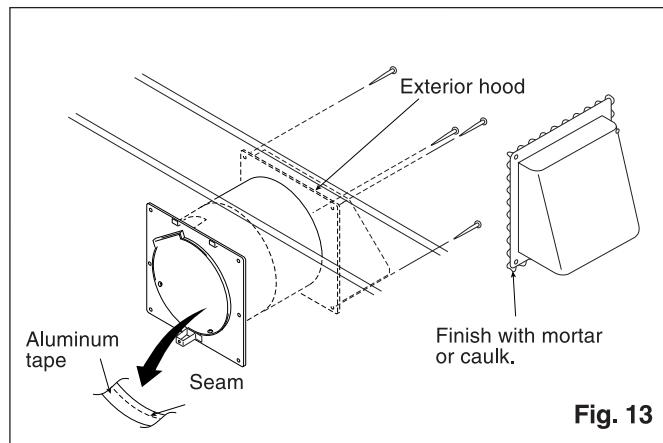

Fig. 13
7. Insert the attached exterior hood from the outside to cover the wall sleeve, and secure it with four screws or nails. Cover the seam between the wall sleeve and exterior hood with aluminum tape, and apply mortar or caulking around the exterior hood flange to prevent rainwater from coming in. (Fig. 13)